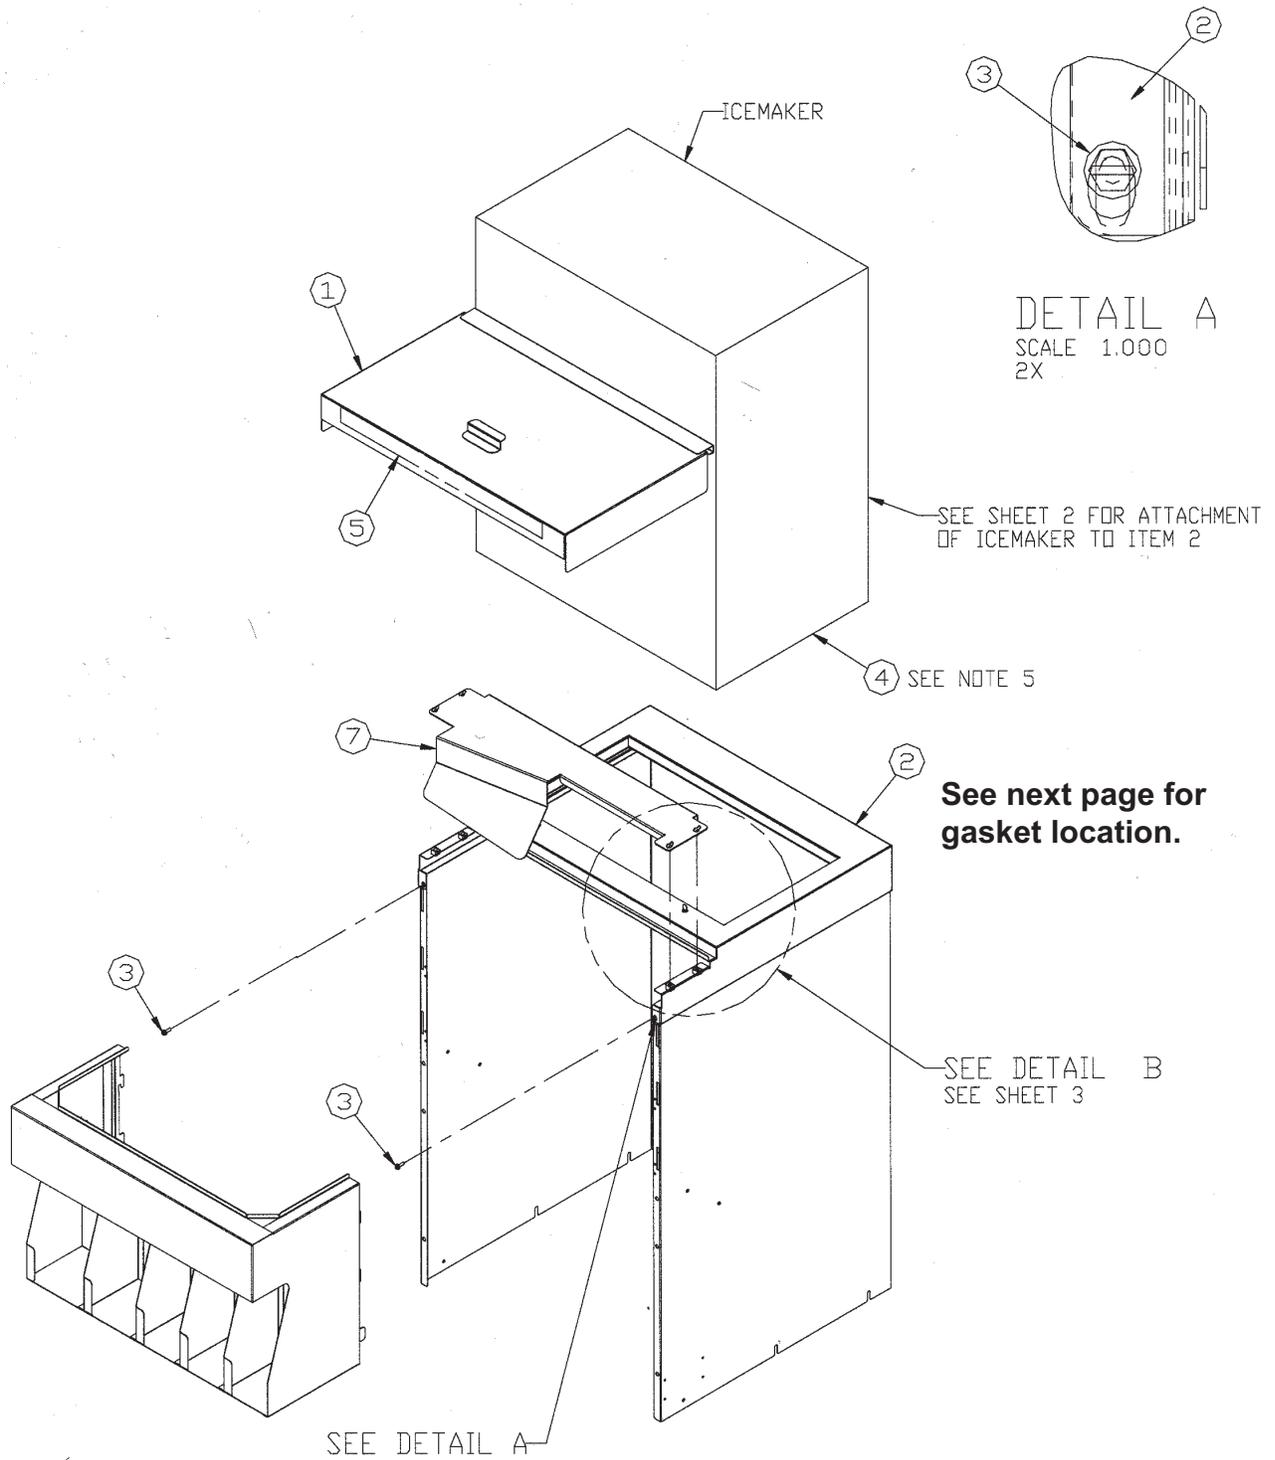

FIG. 1.
3. Remove sheet metal retainer screws (item 3 on Fig. 1) from top front of dispenser.
4. Remove plastic wrap from the icemaker lid adapter (item 2 of Fig. 1) and set icemaker lid adapter on the top of the dispenser.
8. Remove the plastic wrap from the baffle (item 7 on Fig. 1). Place it onto the adapter by first sliding the back of the baffle under the front of the adapter and then line up the thumbscrews with the socket latches (refer to Fig. 3). Turn the thumbscrews to lock them into place. The locked position for the thumbscrews should have the wings in line on each side (refer to Fig. 4).
10. Remove the plastic wrap from the manual fill front cover (item 1 on Fig. 1) and put it over the front of the ice bin.
11. Put the warning label (item 5) on the front of the cover (refer to Fig. 1).